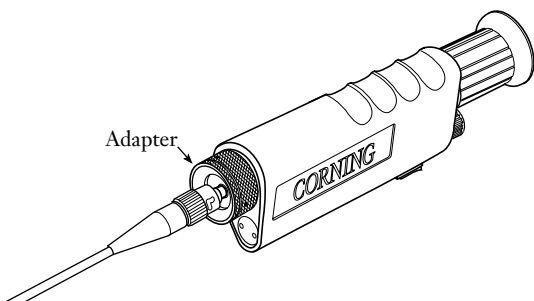

Figure 4
3.3 Insert the connector into adapter of the the 200 FM microscope (Figure 4).